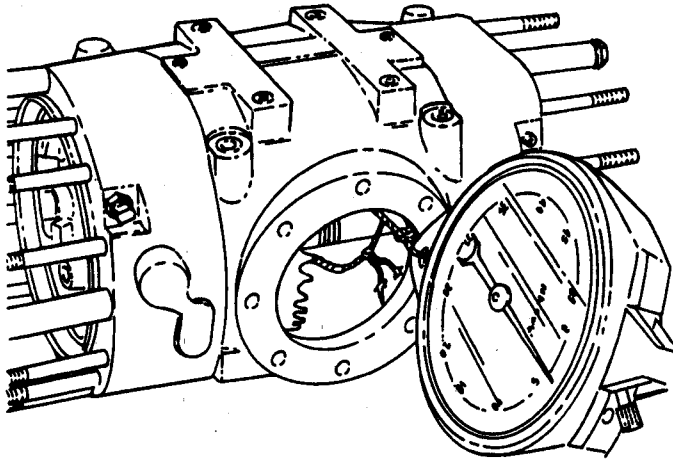

Figure 11.
13. Wrap a cord around the differential housing and note the pull required to maintain rotation to the differential assembly (Figure 11), which should be 6.7 to 7.8 lb. (30-35 N).